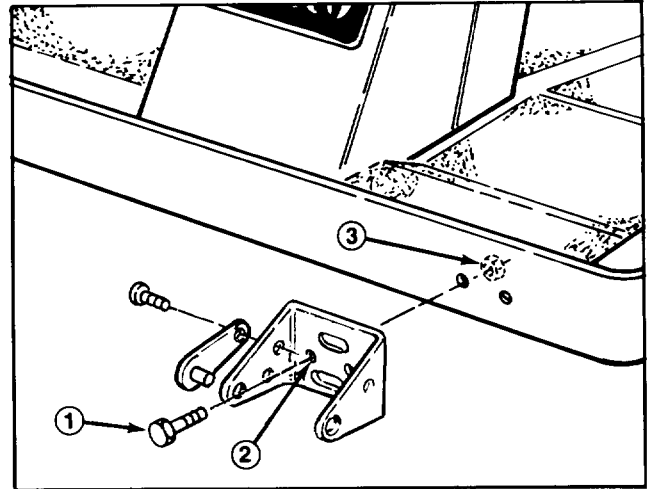

Figure 6
3. To install the mounting bracket, align the bracket with the adapter bar mounting holes. Insert (2) 3/8 x 2-1/4" capscrews through the non-slotted bracket holes and adapter bar mounting holes. Install locknuts and torque to 45-50 ft-lb (Fig. 6).